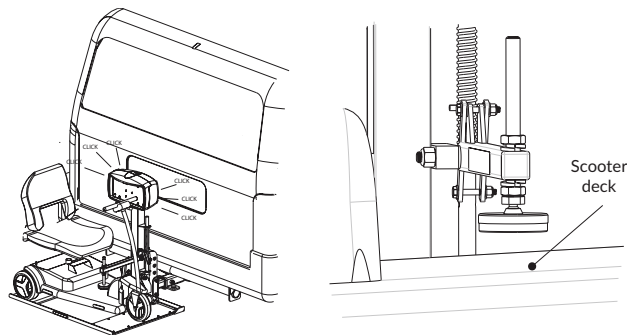

Figure 6-2
2. Raise the platform until you hear the motor clutch, which indicates the top of travel. The hold-down foot should be above the scooter's deck. See Figure 6-2.